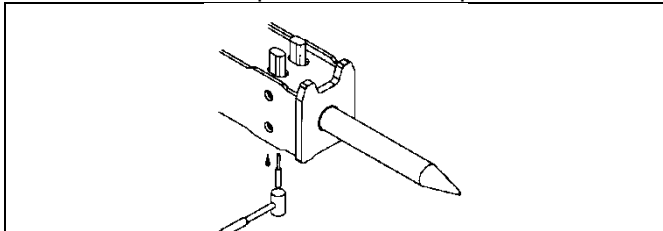

Fig. 10-4 Remove large retainer pins
7. Remove large retainers and set aside. [Fig. 10-4]